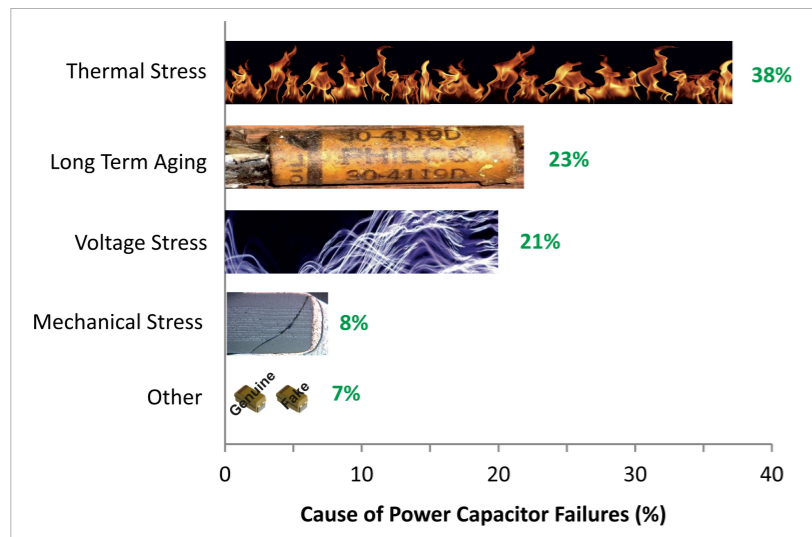

Figure 2: Survey Results for Causes of Capacitor Failures
**Figure 2** shows the results for the causes of capacitor failures.
To understand the statistics for the failure mechanisms of Figure 2, it is important to split the